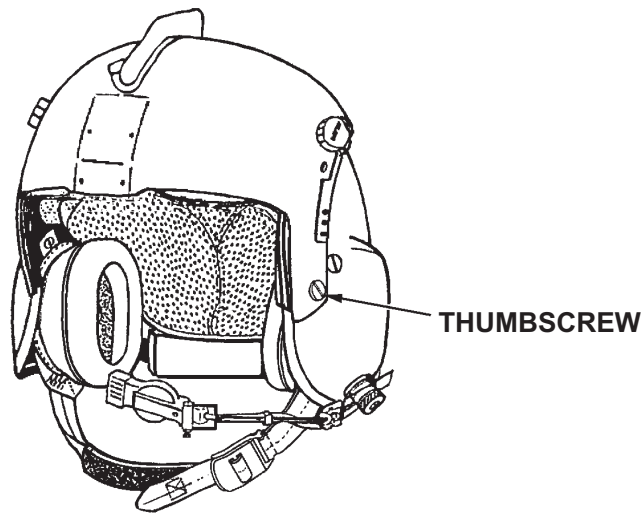

Figure 2-5. Visor Assembly
1. Remove four thumbscrews that attach visor assembly to helmet; remove visor assembly (refer to Figure 2-5).